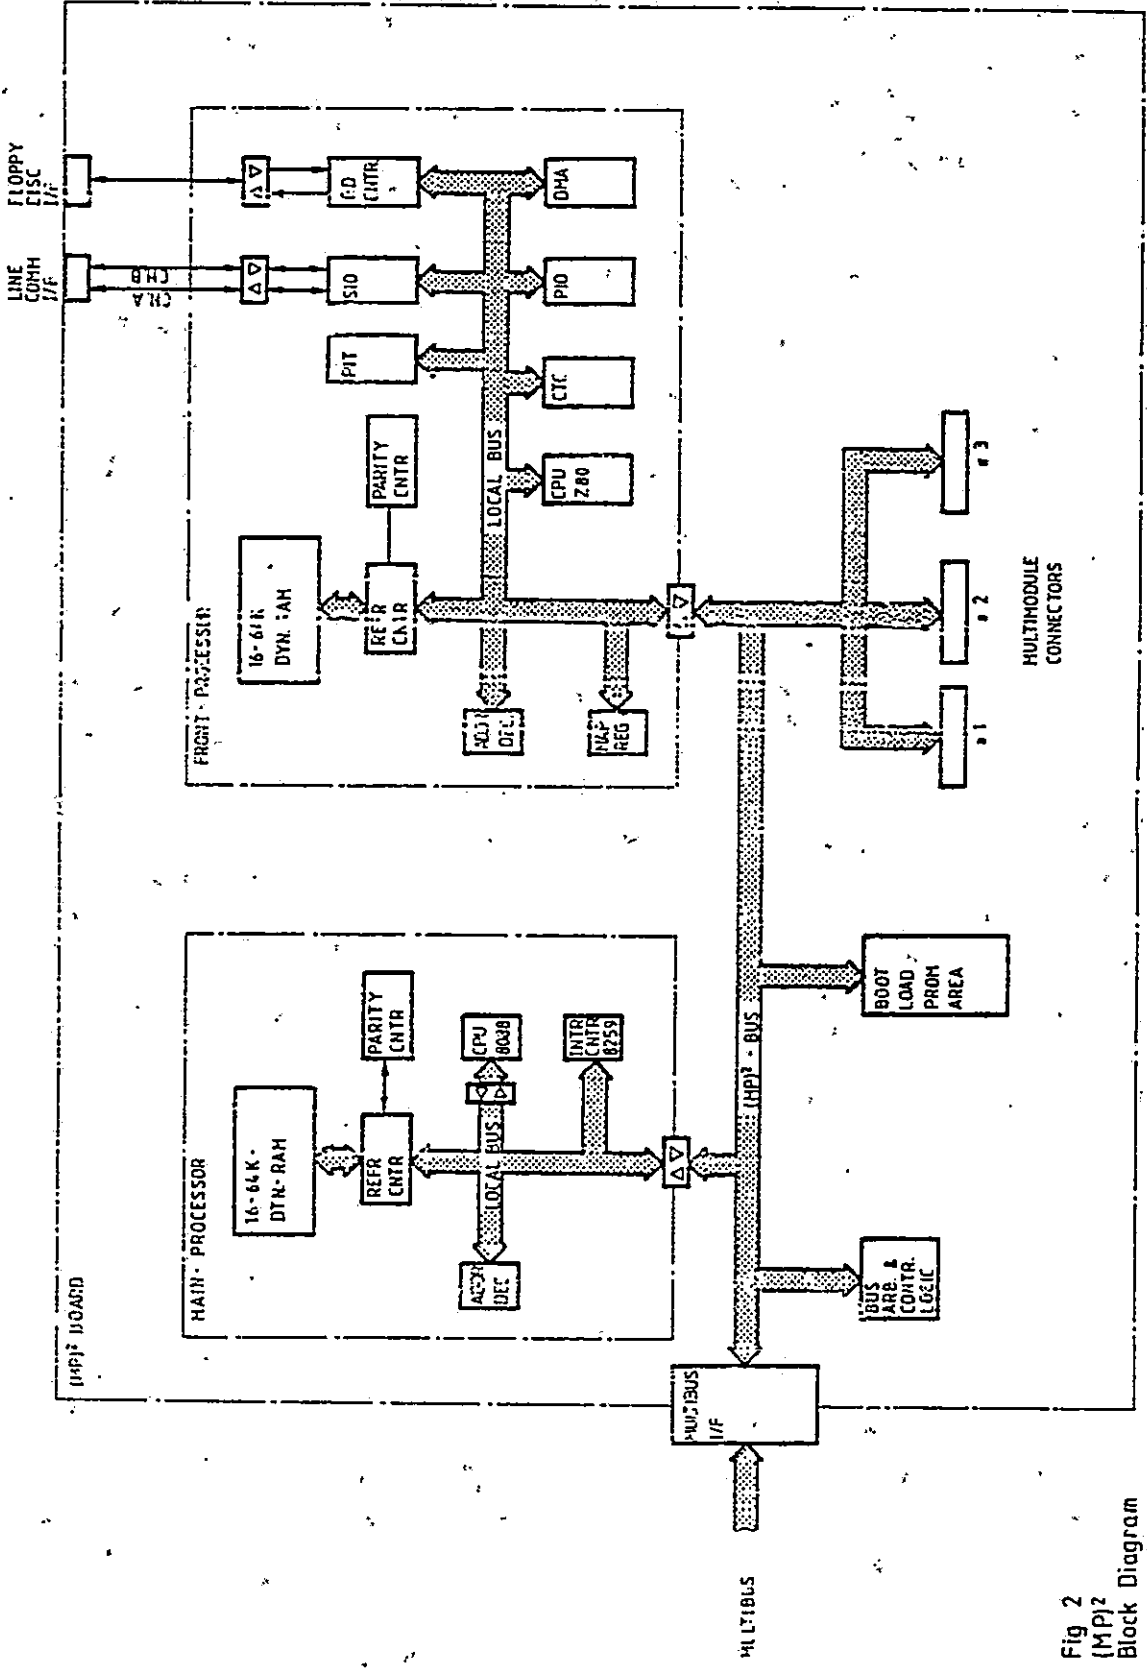

Fig 2
This brief functional description is based on the block diagram on fig. 2. The description handles only special interfaces and conditions as the (MP)1 is designed to be a simple general microcomputer with bidirectional access to a common bus system. All referred circuits are implied to be wellknown by the reader and only the HW interfaces and the addresses are included in this document.
Fig. 2 shows the (MP)2 Block Diagram containing common internal busstructure called (MP)2 - Bus interfacing to following logic functions: